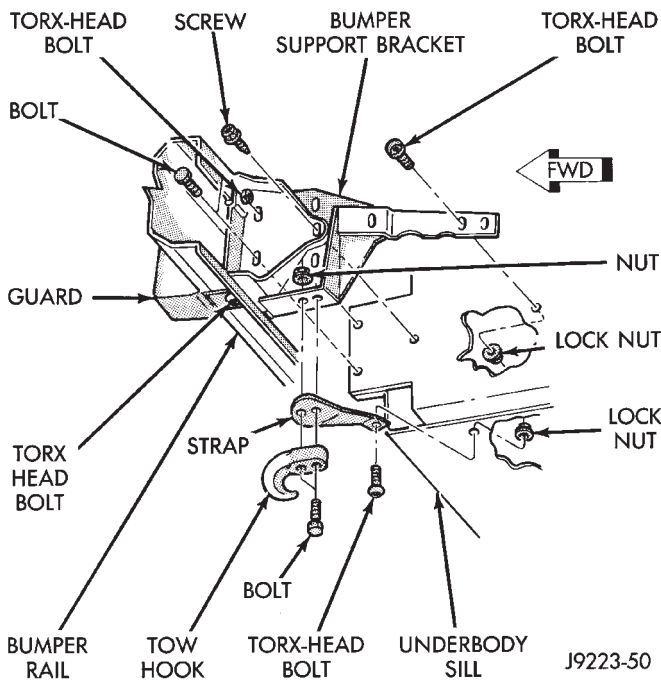

Fig. 4 Tow Hook & Strap—XJ Vehicles
(4) If equipped, remove the locknuts and Torx-head bolts that attach the tow hook straps (Fig. 4) to the underbody sillmember.